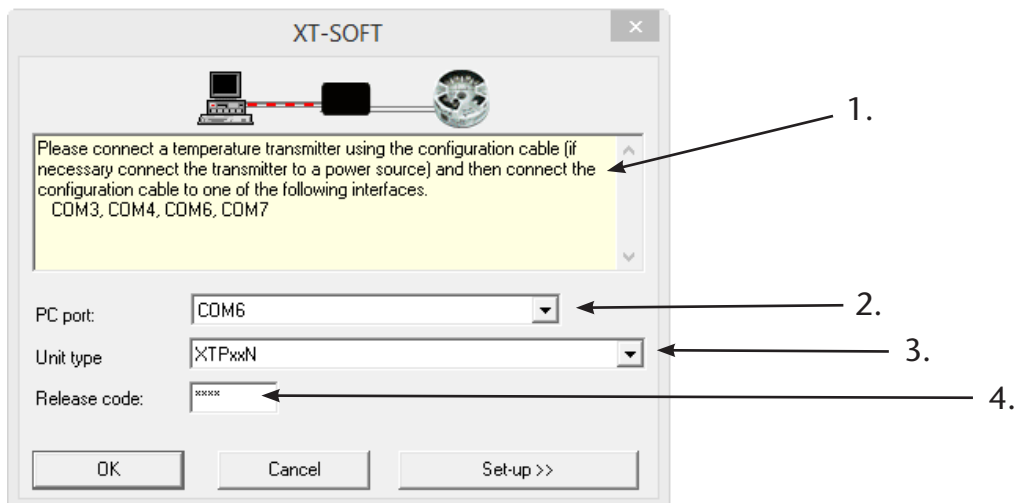

Figure 1
In the yellow information field (1) in the Fig. 1 the communication ports available at the time of starting the program are listed. In the PC Port pull-down box (2) select the port where the XT-USB cable is connected or select the Autodetect option to try to detect the connected port. Please note that Autodetect will take longer than manually selecting the communication port, possibly up to two minutes or more. The XT-USB configuration cable should be assigned to a windows communication port from COM1 to COM20 to communicate with the universal temperature transmitter.